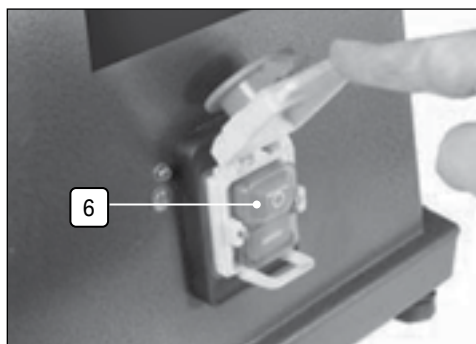

Fig. 10
7.2 ON/OFF & No-Volt Switch (Fig.10)